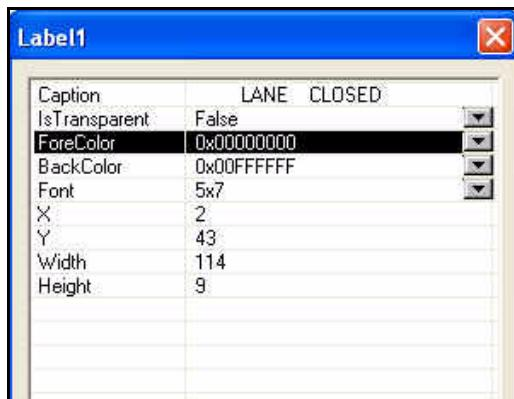

Figure 2-18 Label Properties Box
3. Double click the Label to open the Label properties box as shown in *Figure 2-18*.